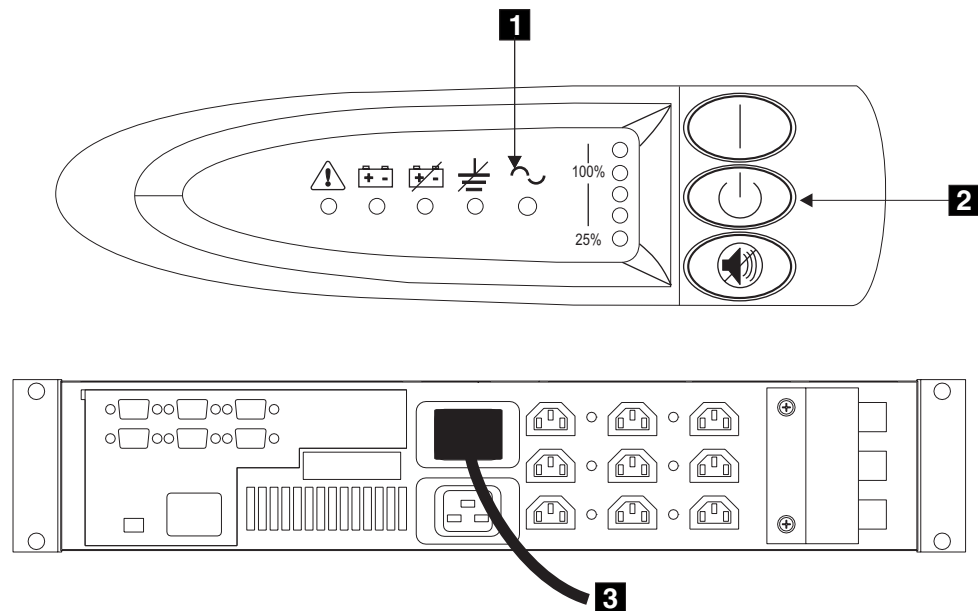

Figure 83. Removing the power cable from a uninterruptible power supply
2. See Figure 83. for an illustration of the front and rear view of the uninterruptible power supply.